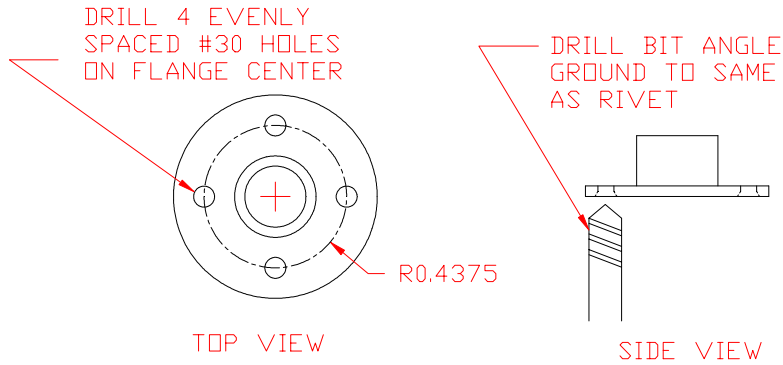

Figure 6.1.1
- 1) Drill and countersink the four #30 holes in each of the supplied Brass Bushings (AIL-27). **NOTE:** A 1/2" drill bit ground to the proper angle works well for countersinking the holes. Figure 6.1.1.